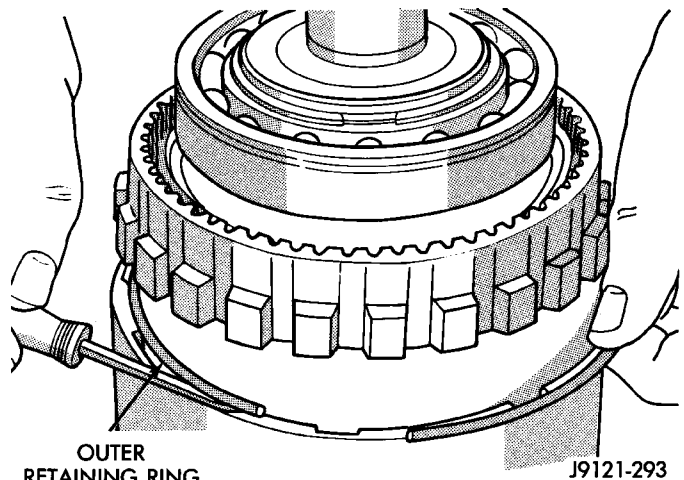

Fig. 217 Clutch Drum Outer Retaining Ring Removal
(8) Remove direct clutch drum outer retaining ring (Fig. 217).